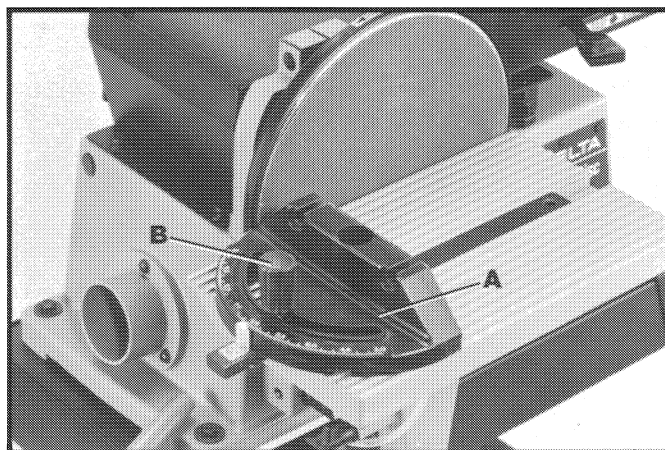

Fig. 32
An accessory miter gage is available for your machine and is used with the disc table. The miter gage body (A) Fig. 32, can be tilted right or left for angle or miter sanding by loosening lock knob (B), and rotating miter gage body to the desired angle. Tighten lock knob (B).